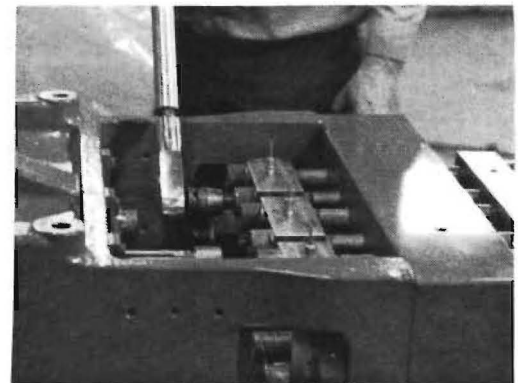

FIGURE 6-2
- H. REMOVE THE FOUR CARTRIDGE CAP SCREWS, AS SHOWN IN FIGURE 6-2.